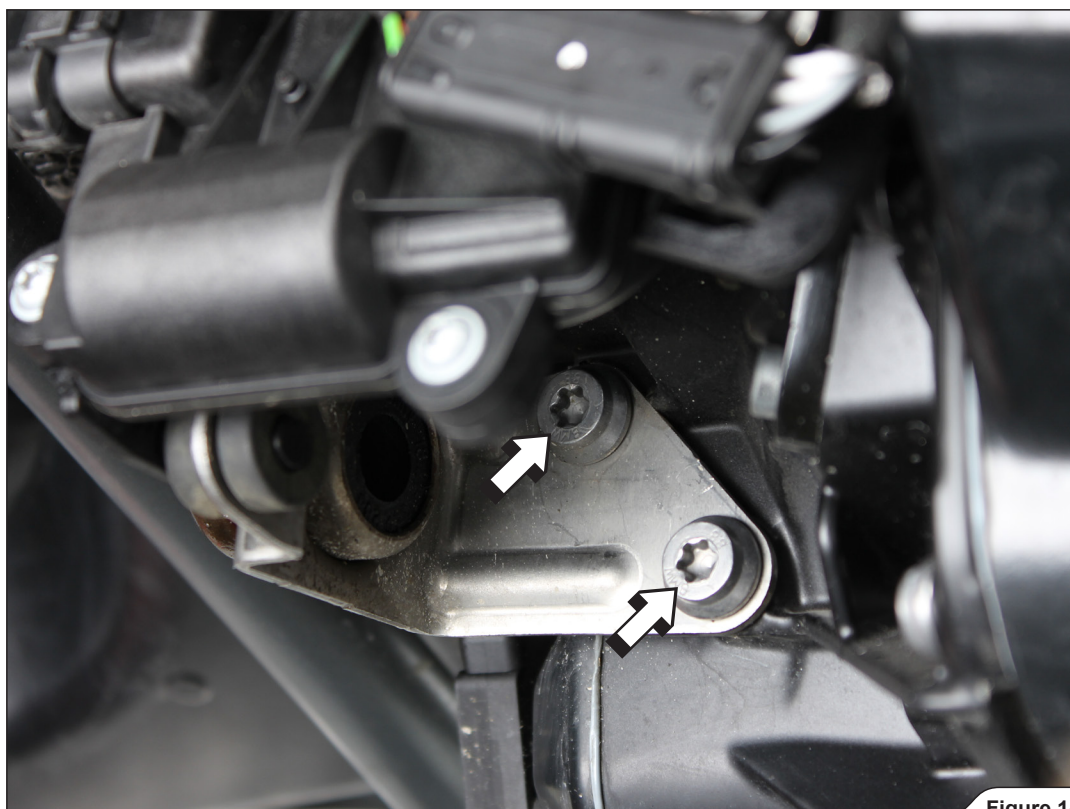

Figure 14
11. Unscrew the marked bolts and remove the header's rubber bracket off the motorcycle (Figure 14).